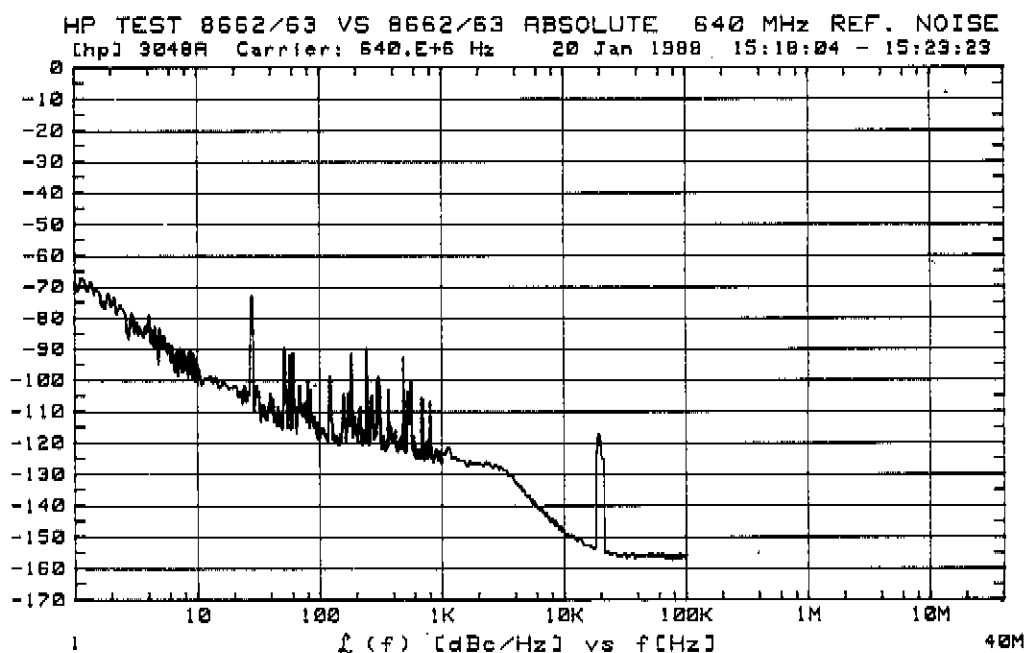

Figure B-2. Typical Spectral Purity Tests Results
13. Press **F1**. The measurement should proceed automatically. The measured noise should be similar to that shown in Figure B-2 and should be within the limits given in the following table.